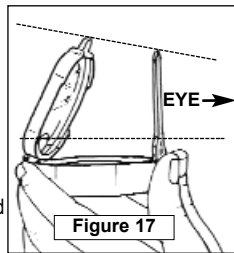

Figure 17
1. Open cover away from your body to approximately 45°, and open small sight. (Fig 17)
2. Lift large sight until perpendicular to the body, or leans slightly away from the base. (Fig 17)